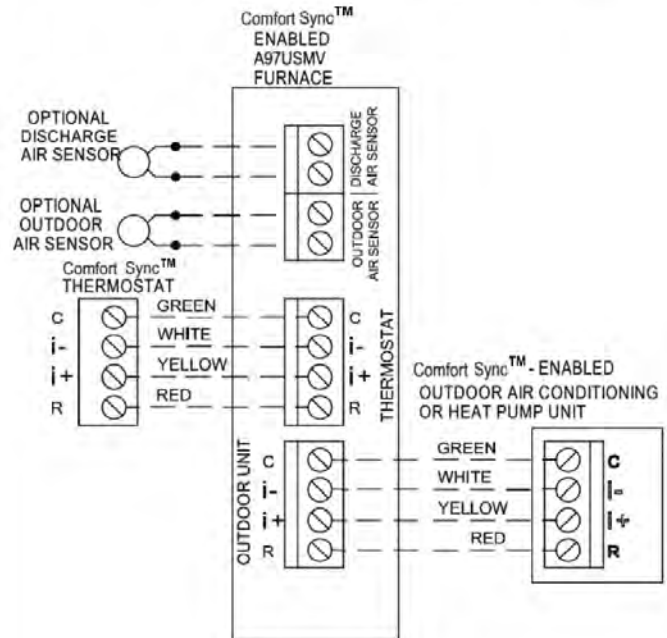

Figure 45
- 7. One line voltage “EAC” 1/4” spade terminal is provided on the furnace integrated control. Any electronic air cleaner or other 120V accessory rated up to **one amp** can be connected to this terminal with the neutral leg of the circuit being connected to one of the provided neutral terminals. See Figure 45 for location of terminal. This terminal is energized when the indoor blower is operating.